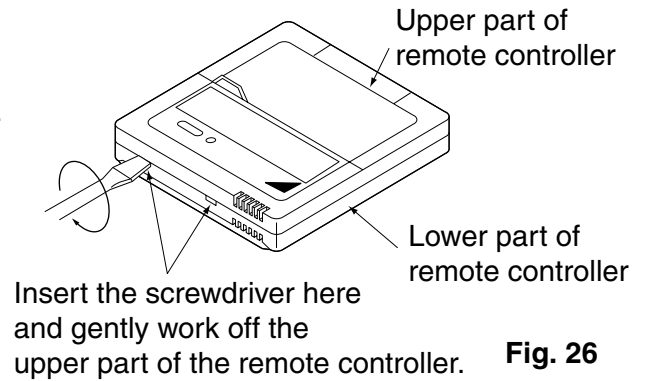

Fig. 26
(1) Insert a ⊖ screwdriver into the recess between the upper and lower part of remote controller and, working from the 2 positions, pry off the upper part. The remote controller PC board is attached to the upper part of the remote controller. (Refer to Fig. 26)